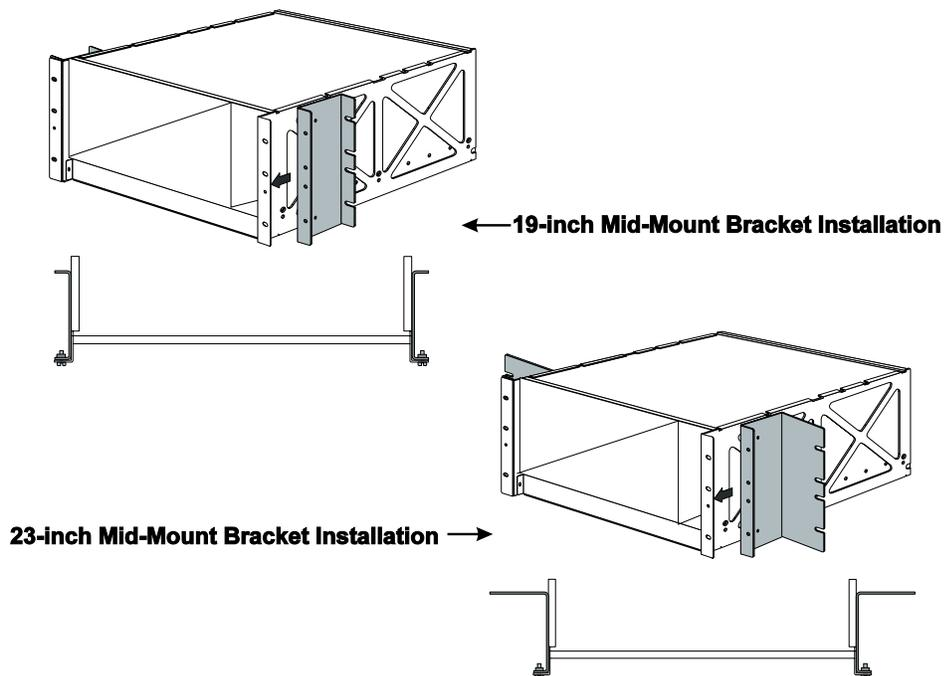

Figure 10. 19 and 23-inch Mid-Mount Installation
- 1 Using the bolts that came with the brackets, fasten them to the chassis mounting flanges. See Figure 10.